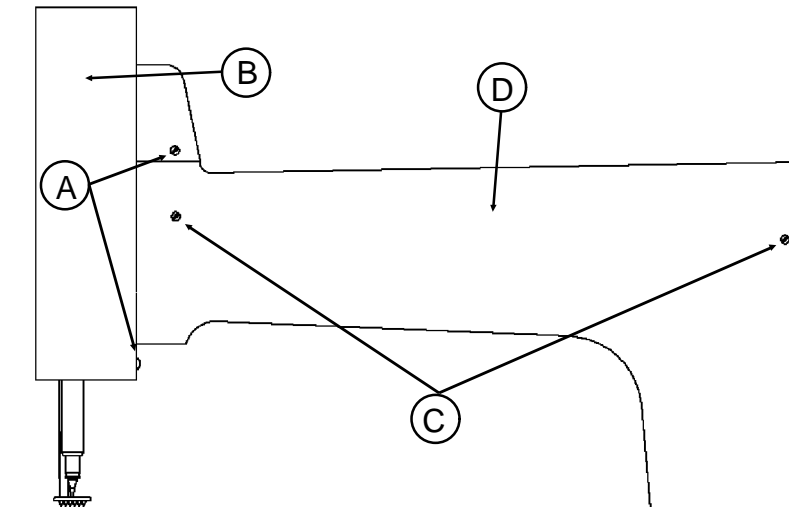

Figure 1
2. Remove the four Retaining Screws (Figure 1-A) holding the Front Cover (Figure 1-B) on the peripheral, and remove the Front Cover.
3. Remove the two Retaining Screws (Figure 1-C) holding the Side Cover (Figure 1-D) on the peripheral, and remove the Side Cover.